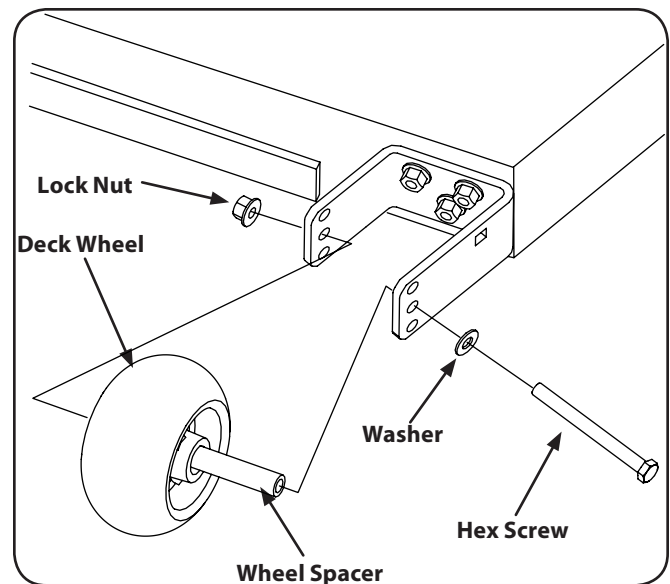

Figure 6-7
To tighten or loosen the tension on the belt, tighten or loosen the jam nuts on the U-rod, see Fig. 6-7, until a ten-pound pull with a spring scale deflects the belt about $\frac{1}{2}$ ".
2. Remove the lock nut securing one of the front gauge wheel shoulder screws to the deck. Remove the gauge wheel and hex screw. Refer to Fig. 6-7.